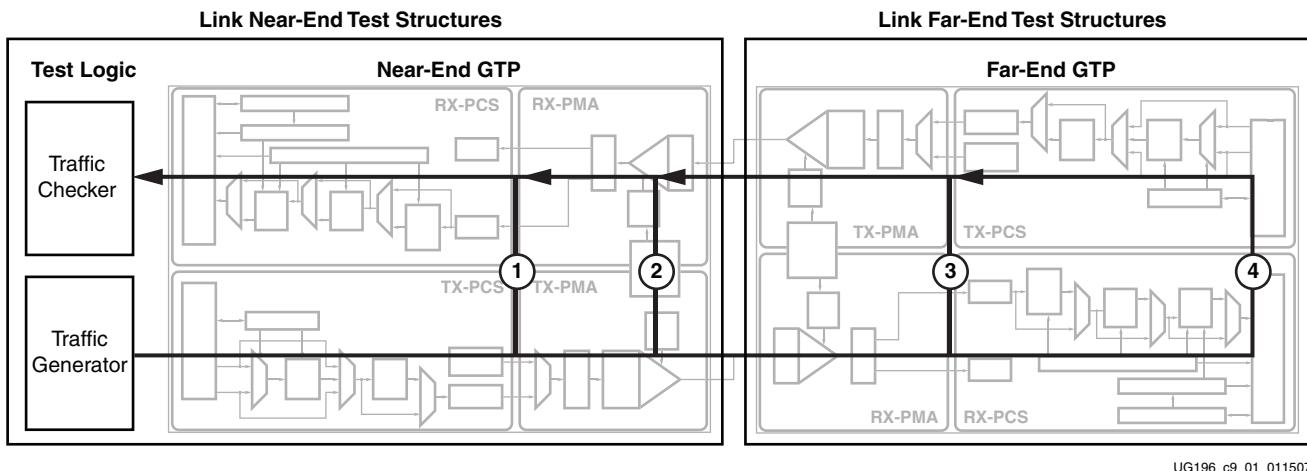

Figure 9-1: Loopback Testing Overview
Loopback modes are specialized configurations of the transceiver datapath where the traffic stream is folded back to the source. Typically, a specific traffic pattern is transmitted and then compared to check for errors. Figure 9-1 illustrates a loopback test configuration with four different loopback modes.
- Near-End PCS Loopback (path 1 in Figure 9-1)
- Near-End PMA Loopback (path 2 in Figure 9-1)
- Far-End PMA Loopback (path 3 in Figure 9-1)
- Far-End PCS Loopback (path 4 in Figure 9-1)